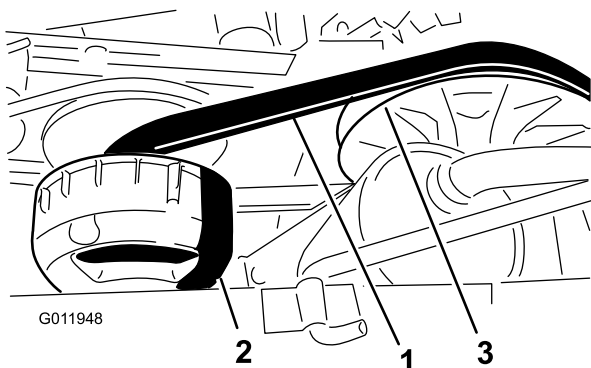

Figure 69
4. Rotate and inspect the belt (Figure 69) for signs of excessive wear or damage.
3. Rotate and route the belt over the secondary clutch (Figure 69).
4. Remove the belt from the primary clutch (Figure 69).
5. Align the new belt over the primary clutch (Figure 69).
6. Rotate and route the belt over the secondary clutch (Figure 69).